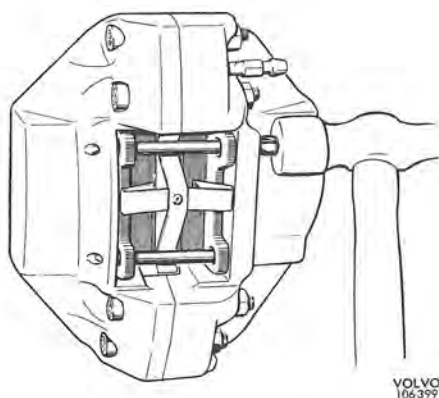

Fig. 5-18. Installing guide pin
8. Fit the new pads. Place one of the guide pins in position and tap it in with a hammer without help from a tool, see Fig. 5-18.